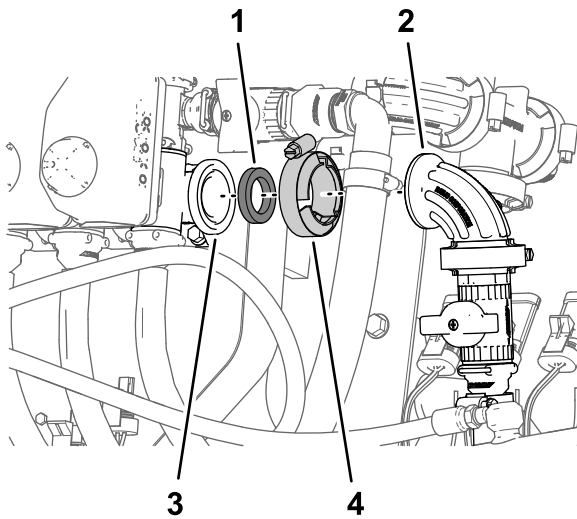

Figure 137
4. Assemble the 90° fitting of the shutoff valve for the optional spray wand kit or the electric hose reel kit onto the flange of nozzle valve 10 with the flange clamp and gasket that you removed in step 1, and tighten the clamp by hand (Figure 137).